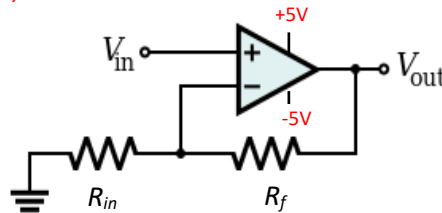

Figure 5: Schematic of Non-inverting amplifier with dual power supply
- First, we will be building a simple circuit using the LM358 chip to perform non-inverting amplification. The schematic of a non-inverting amplifier is given in Figure 5.
3. Use the dual power setup described above (**Setups: C. Dual Power Supply Setup**) to power up the op-amp. Pin 4 of the Op-Amp should be at -5V and Pin 8 should be at +5V. Pay attention to the polarity of the voltage supply. Refer to Figure 5. The GND terminal of the Dual Power Supply Setup is the new ground terminal of the circuit.
4. Connect the V_{in} as described in **Setups: A. Waveform Generator Setup** to the circuit in Figure 5.
5. Connect "CHA" and "AWG" from the Bitscope to the V_{in} and "CHB" to the V_{out} in Figure 5. Remember to connect the GND terminals of CHA and CHB to the GND terminal of the circuit. Measure the peak-to-peak voltage for "CHB" as described in **Setups B. Measurements using Bitscope** and note down V_{PP} and the V_{Avg} in the output voltage column of Table 1.